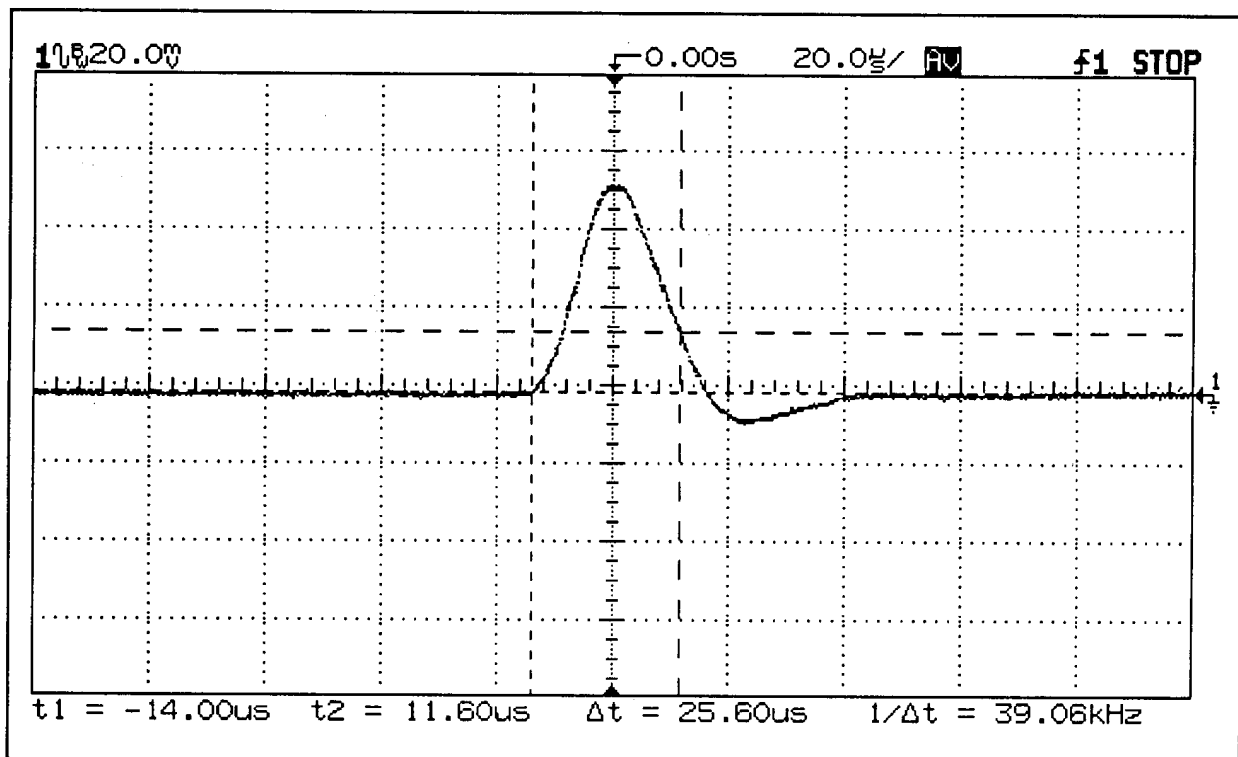

Figure A-7. Load Transient Response Time Waveform
- Adjust the oscilloscope to display transients as in Figure A-7.